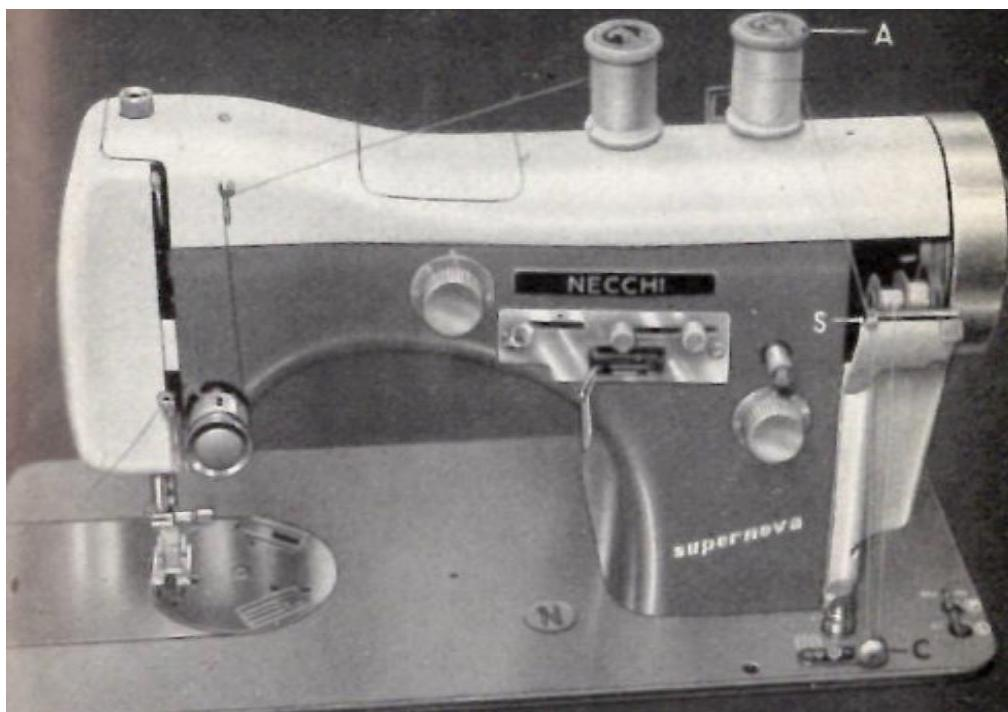

Figure 14
- c) Place the spool of thread on the spool pin A (figure 14). From this spool draw the thread through the thread guide S on the bobbin winder cover in the following manner: